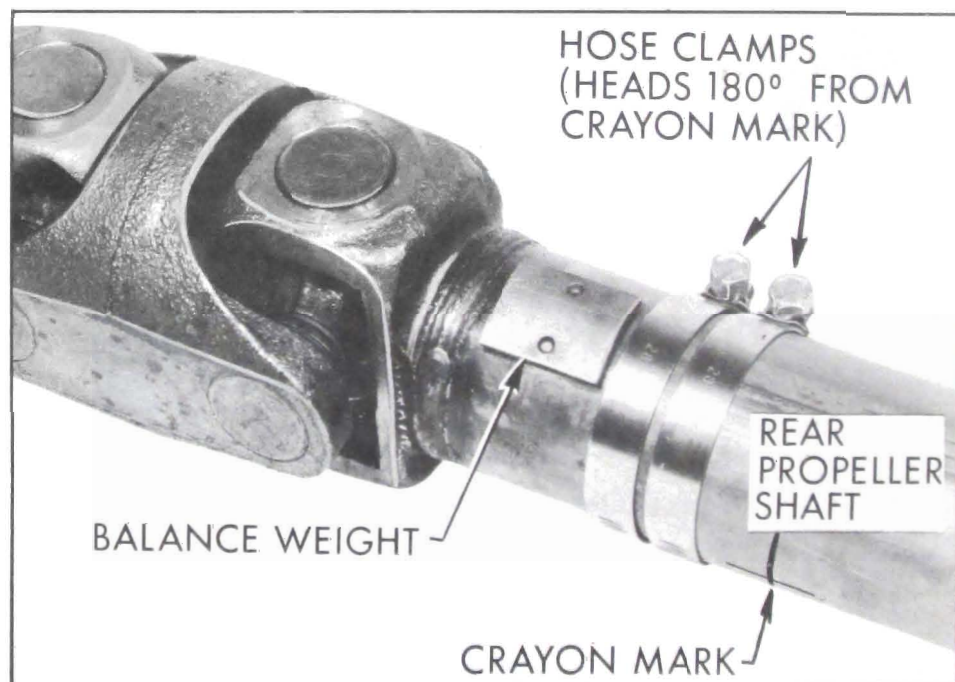

Figure 6-80—Hose Clamps in Place Opposite Crayon Mark
3. Install two (2) Wittek #28 hose clamps (Gr. 1.166, Part #1351813) on the rear propeller shaft and slide them forward until the clamps stop at the nearest balance weight welded to the tube. Place the two clamps side by side with the heads together and 180° from the crayon marking. See Figure 6-80. Tighten the clamps.